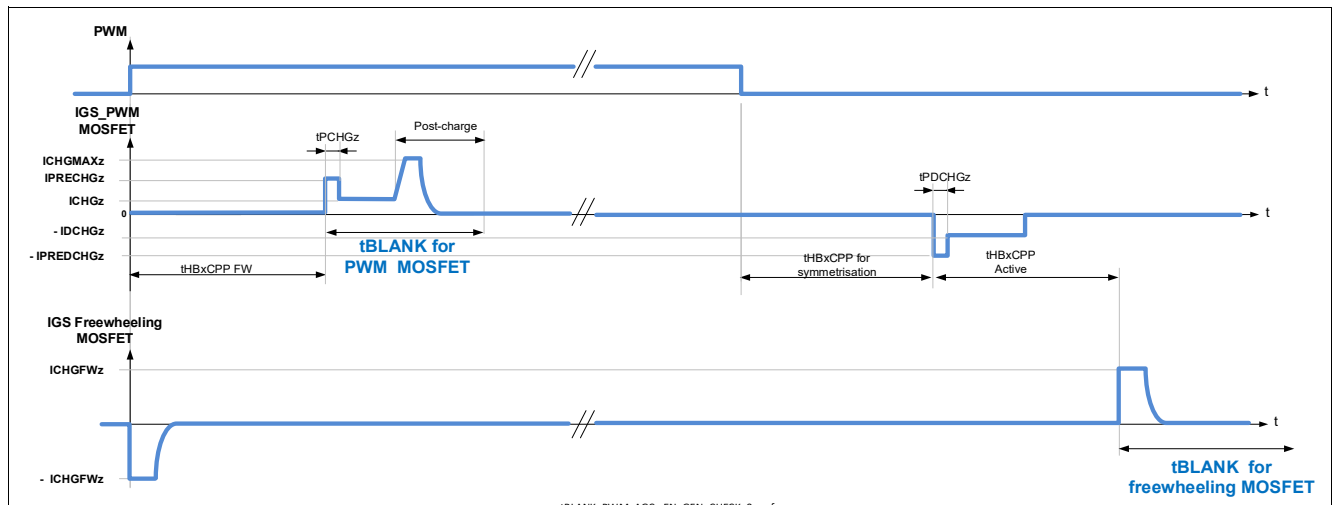

Figure 33 Blank time for half-bridges in PWM operation, detection of generator mode disabled ($EN_GEN_CHECK = 0$)
- The blank time of the PWM MOSFET starts at the expiration of the cross-current protection time of the FW MOSFET (tHBxCCP FW). Refer to **Figure 33**.
- The blank time of the FW MOSFET starts after expiration of the cross-current protection time at turn-off of the PWM MOSFET (tHBxCCP Active). Refer to **Figure 33**.